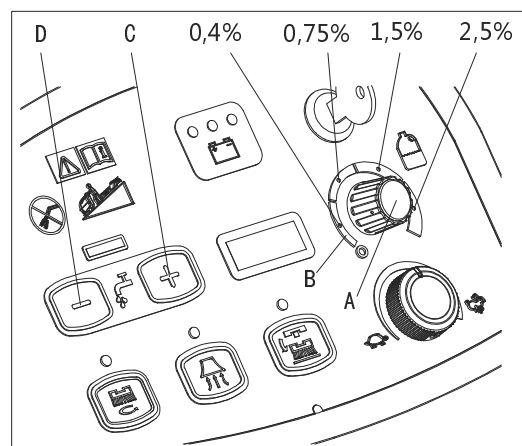

Figure 11
1. Turn the knob (A, Figure. 11) clockwise or counter-clockwise to increase or decrease the detergent concentration.
2. The average detergent concentration values, matching the 4 colored areas of the scale (B), are shown in the figure.
3. To set the detergent quantity to zero, fully turn the knob (A) counter-clockwise.